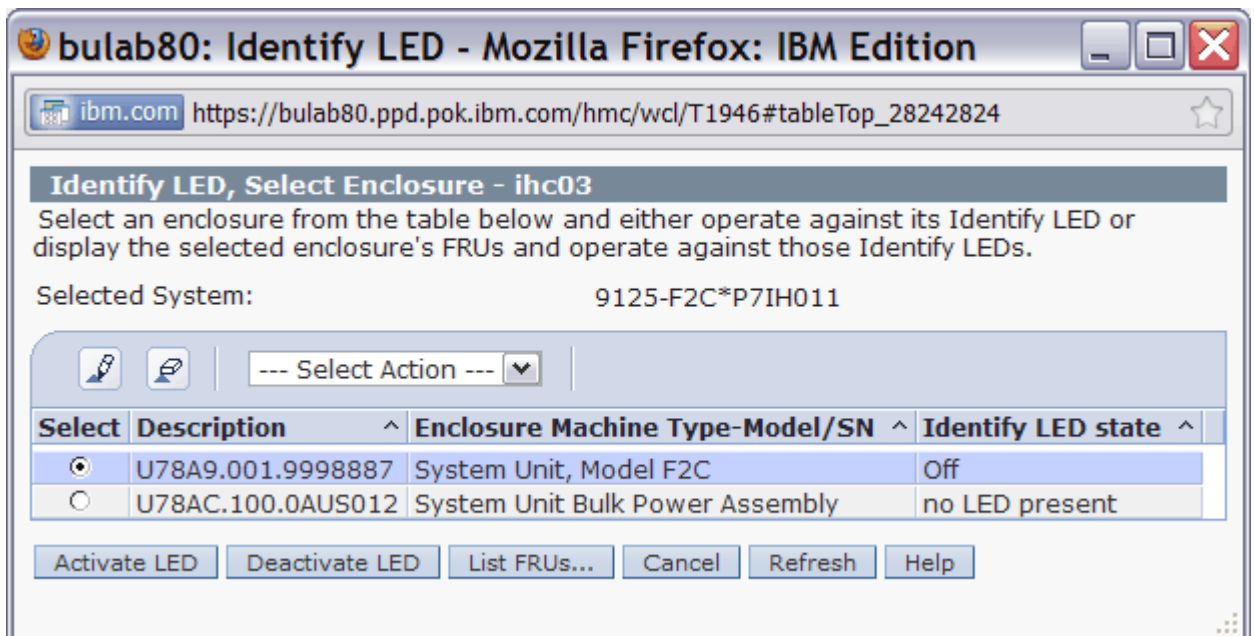

Figure 4 System Unit, Model F2C Selection
STEP 5 In the window titled **Identify LED**, *select* **Enclosure select System Unit, Model F2C** then *click* the **List FRUs...** button. See Figure 4.